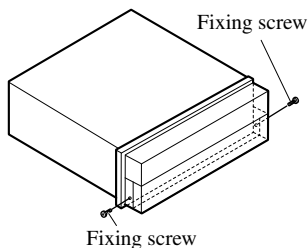

Fig. 17
- **Fix the front panel to the unit using fixing screws after removing the front panel. (Fig. 17)**